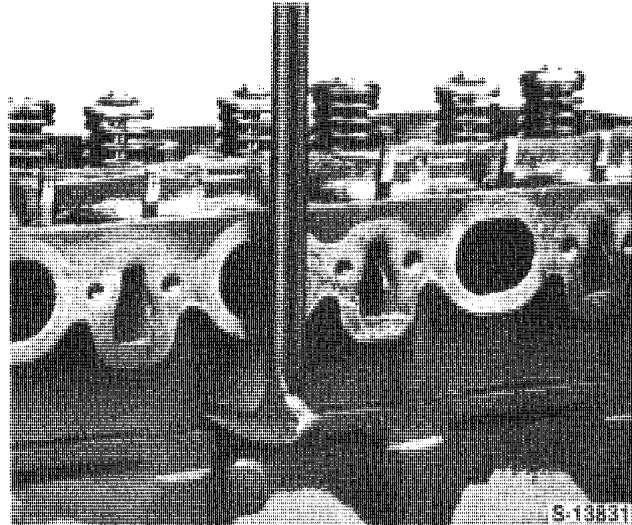

**Figure 6**
19. Lift the cylinder head from the block. If necessary pry the head off, using the pads provided, and taking care not to damage the cylinder head or block faces, Figure 6.